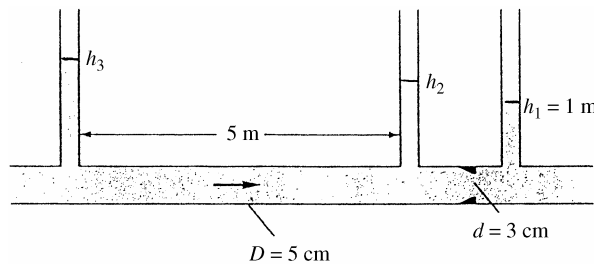

Fig. P6.148
6.148 A smooth pipe containing ethanol at 20°C flows at $7 \text{ m}^3/\text{h}$ through a Bernoulli obstruction, as in Fig. P6.148. Three piezometer tubes are installed, as shown. If the obstruction is a thin-plate orifice, estimate the piezometer levels (a) h_2 and (b) h_3 .